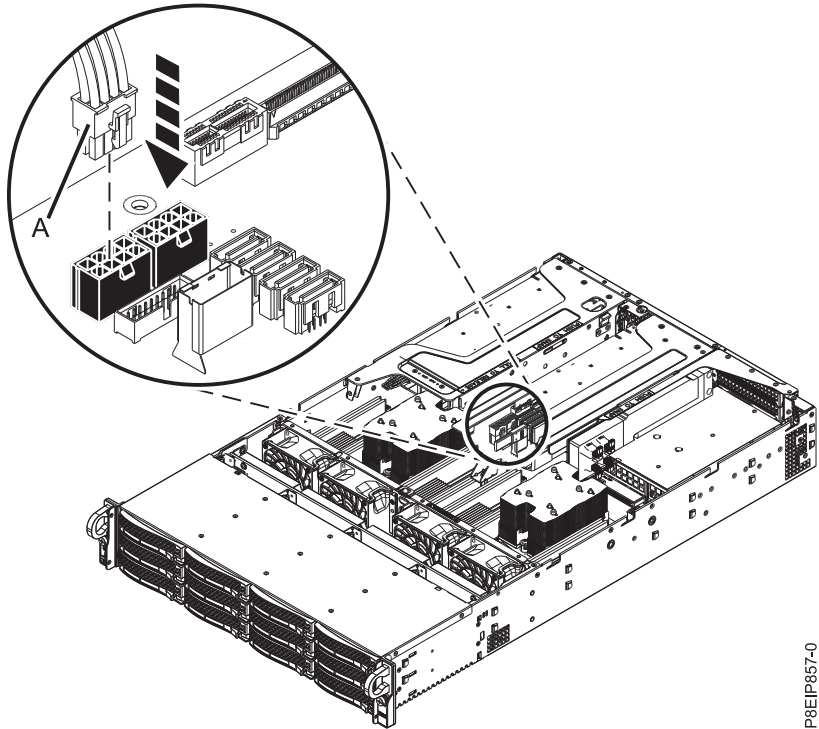

Figure 51. Replacing the GPU power cable
- d. If the riser contains a GPU, plug the GPU power cable (A) into the system backplane as shown in Figure 51 on page 42.